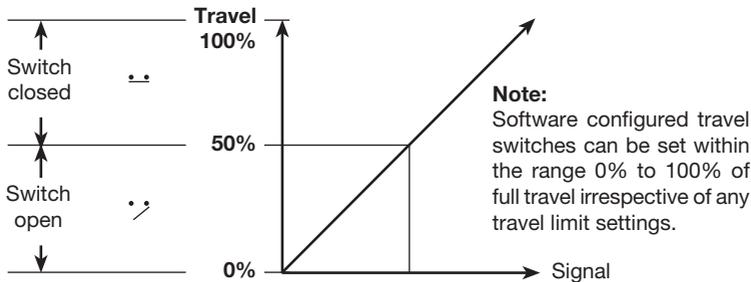

Fig. 61 TS1 Travel switch 1 (normally open)
**TS1 is normally open** and **TS2 is normally closed**. Switching action is set as a % of valve travel (refer to Figures 61 and 62).
Travel switch 1 (**TS1**) is normally open. External wiring should be made between terminals 1 (+) and 2 (-). The value set is a % of valve travel. At the set value the switch will close. The status of the switch will be shown on the LCD (refer to Figure 61).